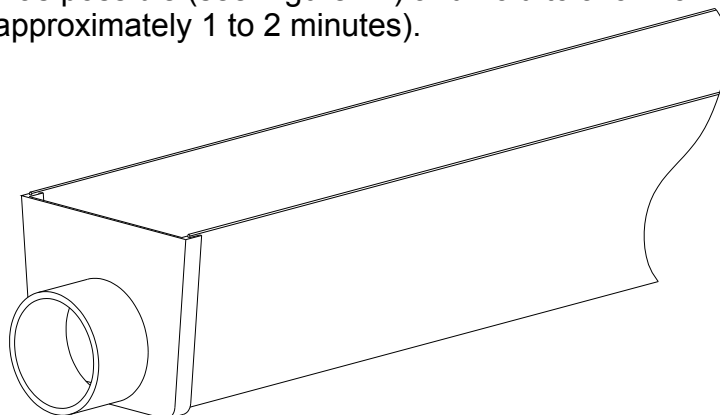

Figure 12
6. After filling the groove in the end cap with Paste PVC Cement, place a section of gutter into the groove of the end cap. Make sure the gutter section is in the end cap as far as possible (see Figure 12) and hold to allow for initial set up of the cement (approximately 1 to 2 minutes).